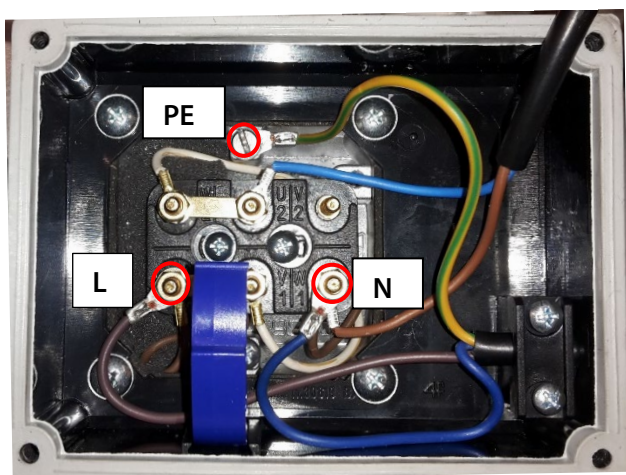

Figure 10 Electrical connection MP-F.. 115 V
3. **115 V:** Feed connection cable ($\varnothing \geq 0.75 \text{ mm}^2 \text{ Cu}$) through cable gland (clamping range 7.5 – 10 mm) and connect it with ring cable lugs according to Figure 10 or the connection diagram in the junction box lid. Secure cable with the clamping bracket.